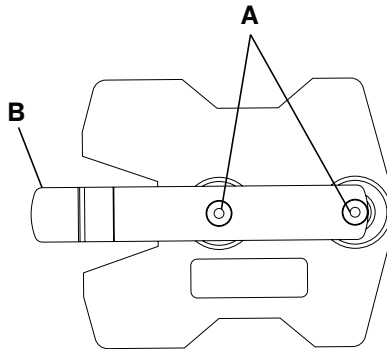

Figure 44 – Mounting bracket
To install the mounting bracket (Figure 44):
1. Use the **SMRT** charger mounting bracket as a template to mark the location of the mounting holes (A) at the area where you will install the mounting bracket.
- a. Spring tab (B) is located at the rear of the **SMRT** charger.
**Note** - When mounting the bracket to a vertical surface, the spring tab should be horizontal with the spring tab point to the left (Figure 44).